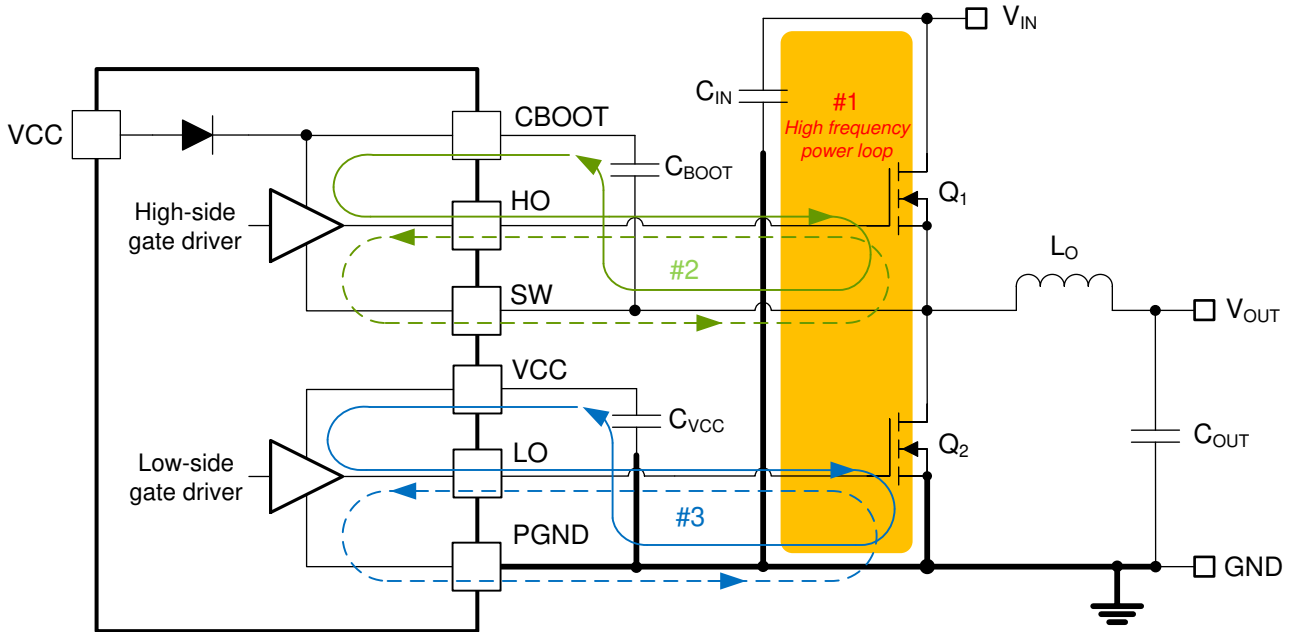

Figure 9-35. DC/DC Regulator Ground System With Power Stage and Gate Drive Circuit Switching Loops
Proper PCB design and layout is important in a high-current, fast-switching circuit (with high current and voltage slew rates) to achieve a robust and reliable design. As expected, certain issues must be considered before designing a PCB layout using the LM25148-Q1. The high-frequency power loop of a buck regulator power stage is denoted by loop 1 in the shaded area of Figure 9-35. The topological architecture of a buck regulator means that particularly high di/dt current flows in the components of loop 1, and reducing the parasitic inductance of this loop by minimizing the effective loop area becomes mandatory. Also important are the gate drive loops of the high-side and low-side MOSFETs, denoted by 2 and 3, respectively, in Figure 9-35.
- Loop 1: The most important loop area to minimize is the path from the input capacitor or capacitors through the high- and low-side MOSFETs, and back to the capacitor or capacitors through the ground connection. Connect the input capacitor or capacitors negative terminal close to the source of the low-side MOSFET (at ground). Similarly, connect the input capacitor or capacitors positive terminal close to the drain of the high-side MOSFET (at V_{IN}). Refer to loop 1 of Figure 9-35.
- The SW pin connects to the switch node of the power conversion stage and acts as the return path for the high-side gate driver. The parasitic inductance inherent to loop 1 in Figure 9-35 and the output capacitance (C_{OSS}) of both power MOSFETs form a resonant circuit that induces high frequency (greater than 50 MHz) ringing at the SW node. The voltage peak of this ringing, if not controlled, can be significantly higher than the input voltage. Make sure that the peak ringing amplitude does not exceed the absolute maximum rating limit for the SW pin. In many cases, a series resistor and capacitor snubber network connected from the SW node to GND damps the ringing and decreases the peak amplitude. Provide provisions for snubber network
- Loop 2: high-side MOSFET, Q_1 . During the high-side MOSFET turn-on, high current flows from the bootstrap (boot) capacitor through the gate driver and high-side MOSFET, and back to the negative terminal of the boot capacitor through the SW connection. Conversely, to turn off the high-side MOSFET, high current flows from the gate of the high-side MOSFET through the gate driver and SW, and back to the source of the high-side MOSFET through the SW trace. Refer to loop 2 of Figure 9-35.
- Loop 3: low-side MOSFET, Q_2 . During the low-side MOSFET turn-on, high current flows from the VCC decoupling capacitor through the gate driver and low-side MOSFET, and back to the negative terminal of the capacitor through ground. Conversely, to turn off the low-side MOSFET, high current flows from the gate of the low-side MOSFET through the gate driver and GND, and back to the source of the low-side MOSFET through ground. Refer to loop 3 of Figure 9-35.